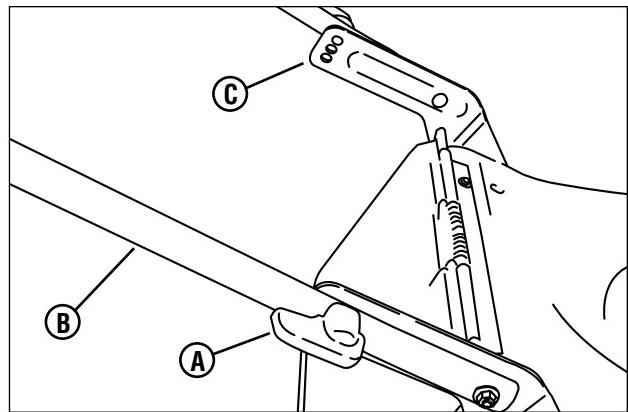

Figure 4: Adjusting the handle height
1. Turn the knobs (**A**, **Figure 4**) on either side of the lower handle (**B**) to retract the locking pins. Align the lower handle with the desired set of holes in the handle brackets (**C**). Turn the knobs to release the locking pins and secure the lower handle.